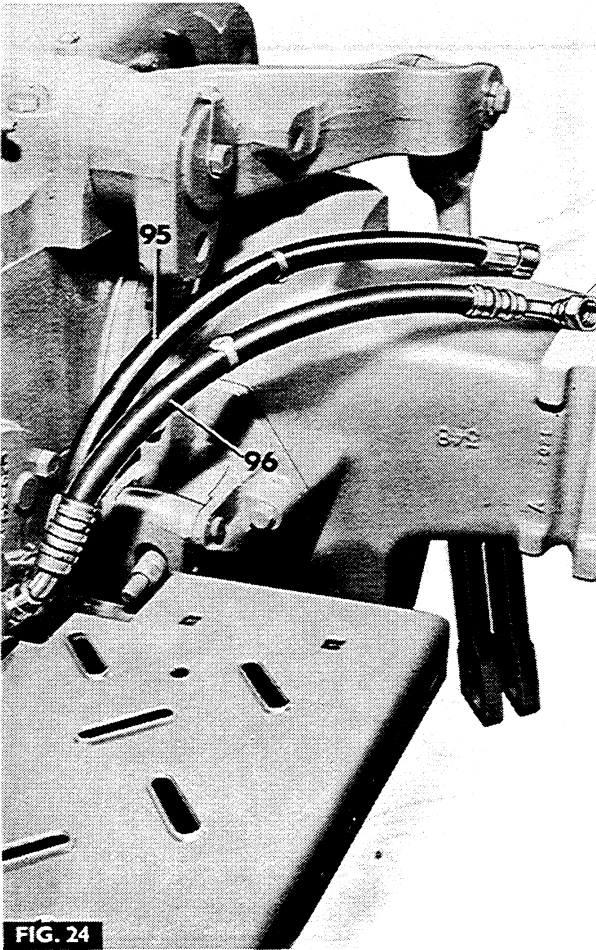

FIG. 24
12. Fig. 24. Fit the feed and return hoses (95 and 96) to the two unions, as shown.